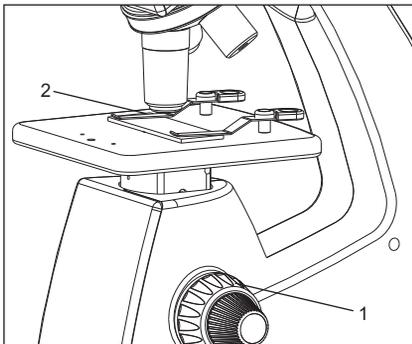

Fig. 11
**Place the specimen gently on the stage and secure it beneath the stage clips (figure 11).**
1. Rotate the coarse adjustment knob (1) anticlockwise to fully lower the stage.
2. Press the stage clips (2) one by one with finger to lift them from front. Place the specimen by sliding the specimen glass plate on the stage from the front toward the rear.